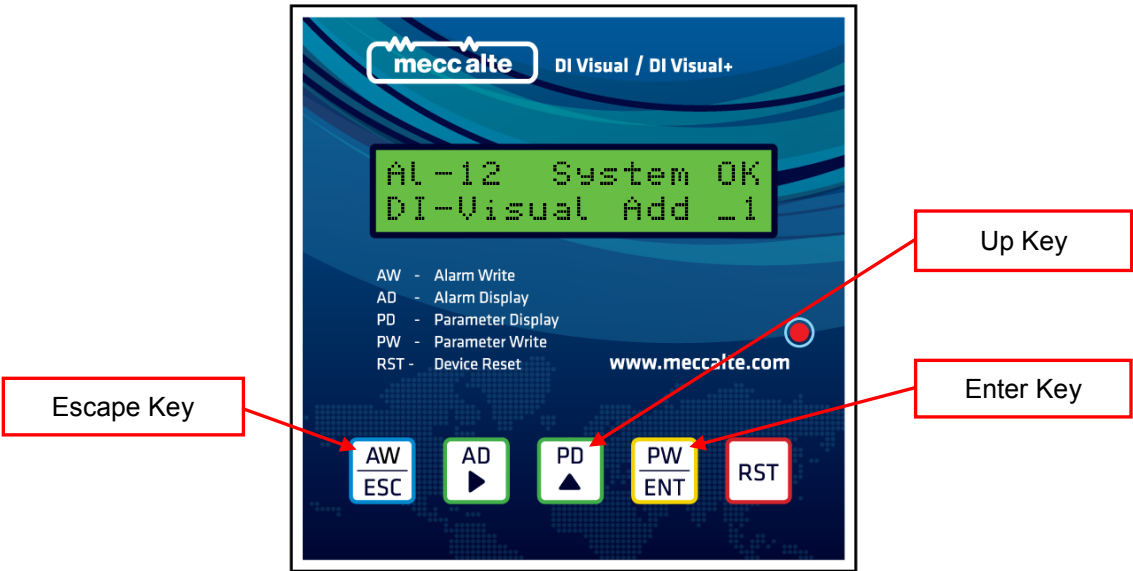

fig. 3
For setting the address of DSR in DI-Visual+, after Power On or Resetting DI-Visual+ device using **RST** key and keep the **PW/ENT** key pressed to prompt for the address stored in DI-Visual+ device as shown in Fig. 3. Default address stored is 1. To change the address you need to enter the password, see Par. 3.
- 1) To change the address press **AD** or **PD** key as shown in Fig. 3. Once you reach to desired address press **PW/ENT** key to update the change in address.